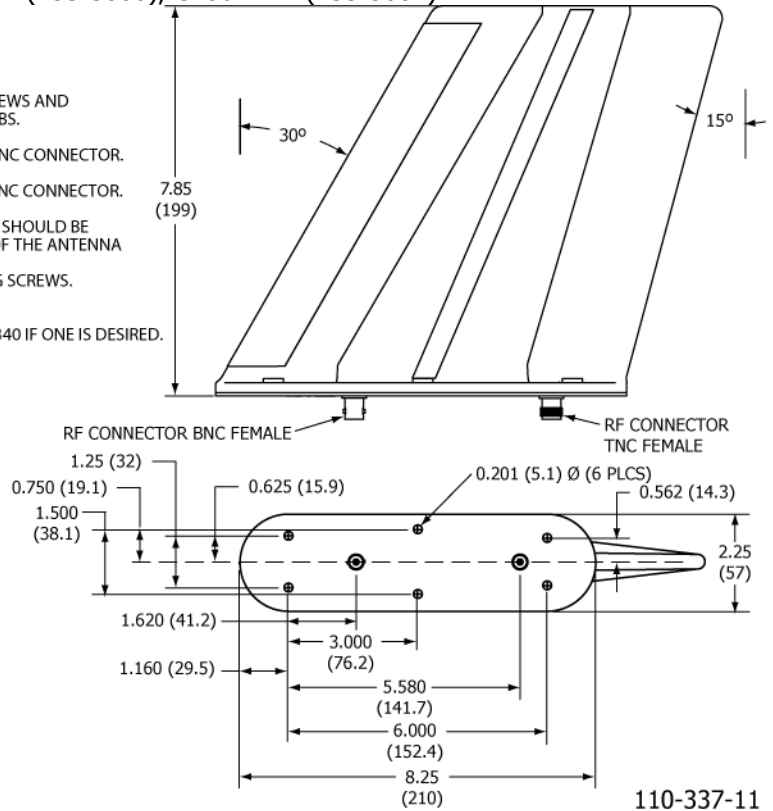

Figure 18 Blade Antenna 110-337-11 Outline and Dimensions
- a) See Figure 16 on page 44, Figure 17 on page 45, and Figure 18 on page 46.